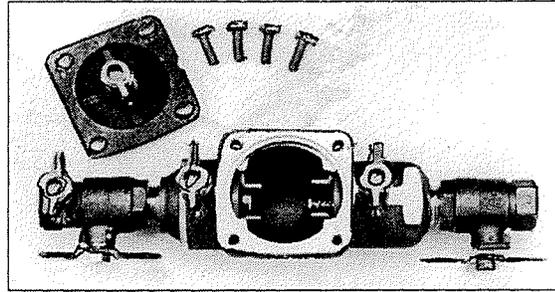

Figure 2a
3. After taking the cover off either check valve can be removed by simply using pliers to grasp the spring clip (RPZ figure 2, DCV figure 2a).